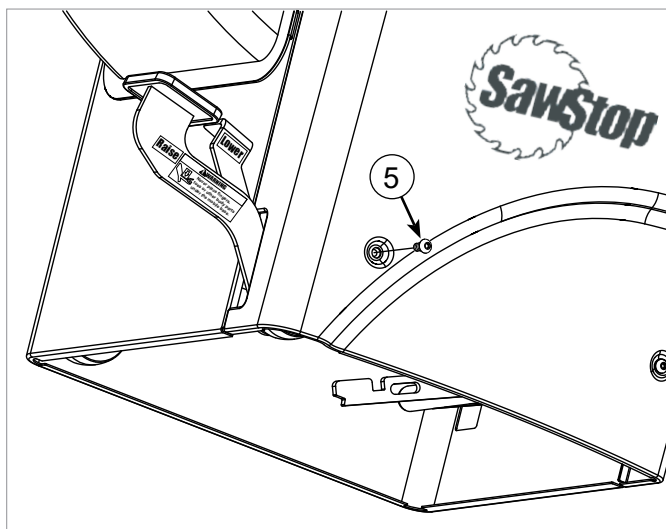

Fig. 35
17. Align the front end of the wheel support with the mounting hole in the lower left corner of the front of the cabinet. Secure that end of the wheel support to the cabinet with an M8 x 20 button head shoulder socket bolt (see Fig. 35). Note that this bolt is different than the bolt used to secure the rear of the wheel support to the cabinet. Fully tighten the bolt using a 5 mm hex key.